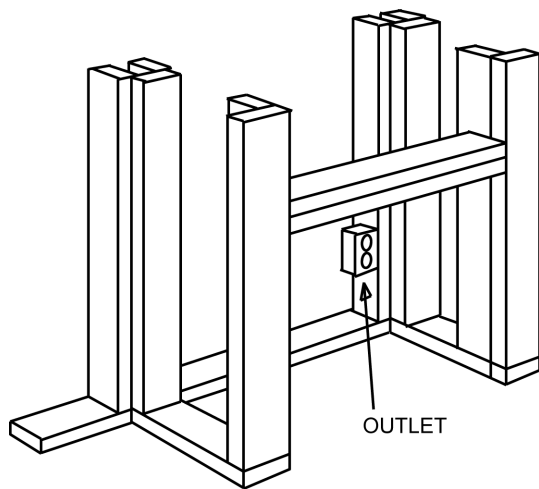

FIGURE 5
**Option #2** - A new outlet can be installed inside the new frame construction. (if allowed by electrical code). (FIGURE 5)